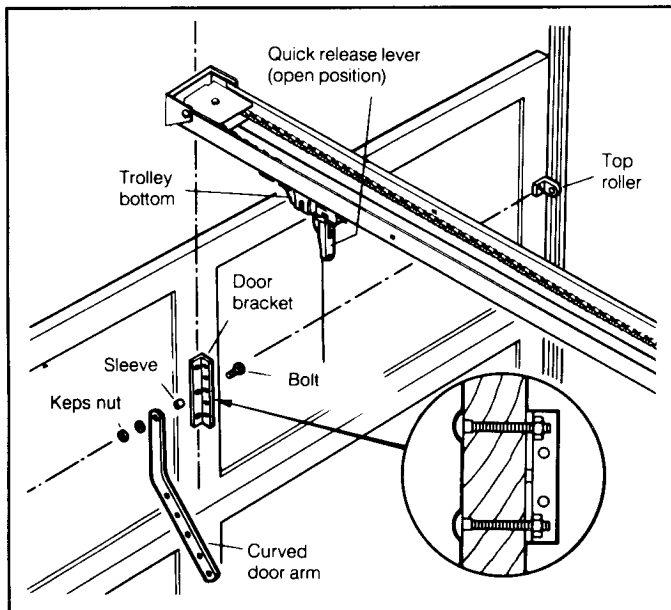

Figure 16. Mounting Bracket and Curved Door-Arm Location
The right-angled portion of the bracket (which contains the door-arm adjustment holes) should be mounted at the center line of the door with the outward facing angle to the right (see Figure 16). Note that the middle of the mounting bracket should be in line with the top rollers at the sides of the door. To install, use the door bracket as a template and mark position of top and bottom bolt locations on door and drill 1/4" holes. Note that the carriage bolts should be inserted through the bracket from the outside of the door.
Step 35: Attach the curved door arm to the center hole on the bracket with a keps nut and bolt (see Figure 16).